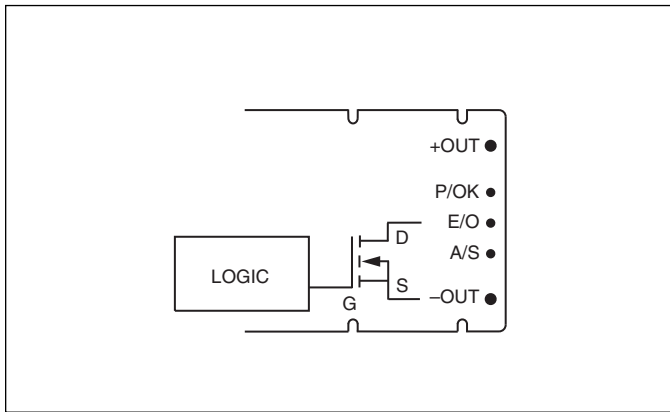

Figure 10-8 — Enable Output (E/O)
**Enable Output (E/O) Pin.** The Enable Output (E/O) is used to inhibit the DC-DC converters at start up until the hold up capacitors are charged, at which time Enable is asserted high (open state, Figure 10-8). If the AC line fails, E/O goes low when the DC output of the HAM drops below 250 Vdc.